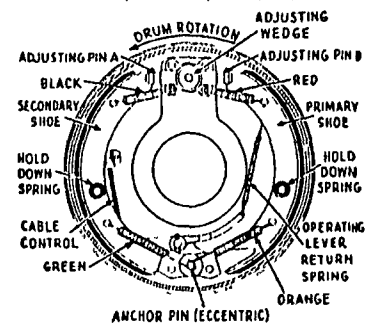

Figure 15
2. Adjust lining-to-drum clearance by screwing in the adjusting screw A (Fig. 15) until brake drags, then back off until wheel is free.